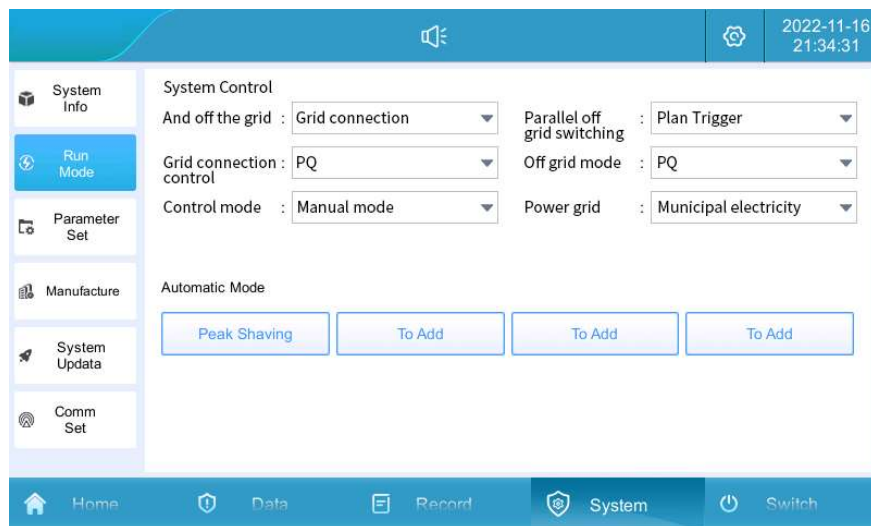

Figure 5.8 Grid-connected manual mode setting
- Click "System" -> "Run Mode" mode to enter Figure 5.8.